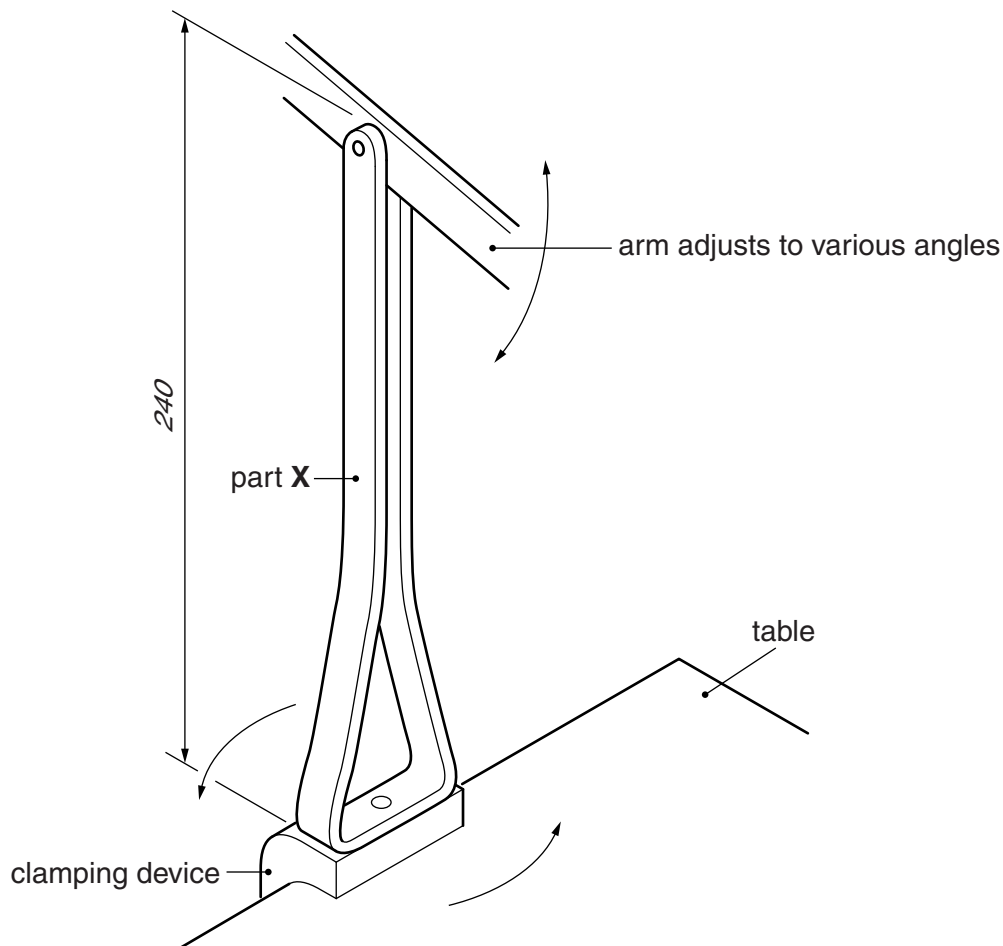

Fig. 7
7 Fig. 7 shows an incomplete idea for an adjustable lamp.
- (c) Using notes and sketches, **develop** a design which allows the lamp to be clamped to a table. The design must include a way of joining the clamping device to part **X**. Part **X** must be able to rotate as shown in Fig. 7. [20]